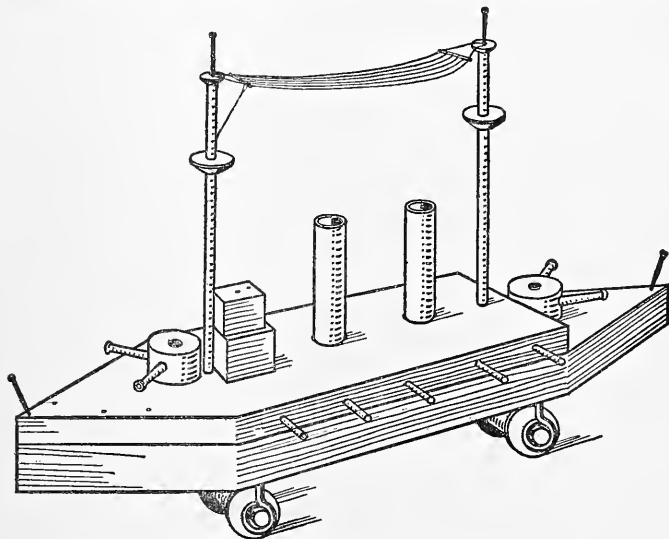
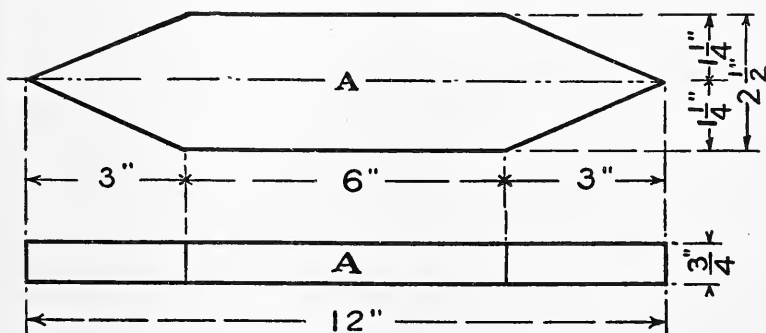

FIG. 281. — A Simple Toy Battleship
FIG. 283. — Plan and Side Elevation of Hull
In building the ships for a fleet, you probably will not want to make them all of the form shown in Fig. 251 of Chapter X. Several of that size will do. Make the others simpler, of the *cruiser* types shown in Figs. 281 and 293 of this chapter.
The Battleship shown in Fig. 281, with an indication as to how each part is assembled. Dimensions for the parts are given in the detail working-drawings of Figs. 283 to 292. If you build several ships alike, you will save time by making all of the parts for one ship, first, and then using these parts as patterns. Mark out and cut the *hulls* (A) for all the other boats, then the *decks* (B), then the *masts* (C), and so on. Use soft pine, cypress, or other soft wood, for the models.
The **Hull** (*A*, Fig. 282), draw a center-line upon the working material, as shown in Fig. 283, and lay off the measurements each side of this, to get the sides alike.
If you make this cruiser model for your indoor battleship fleet, you had better mount it upon wheels in the same manner as the model shown in Fig. 281 is mounted.